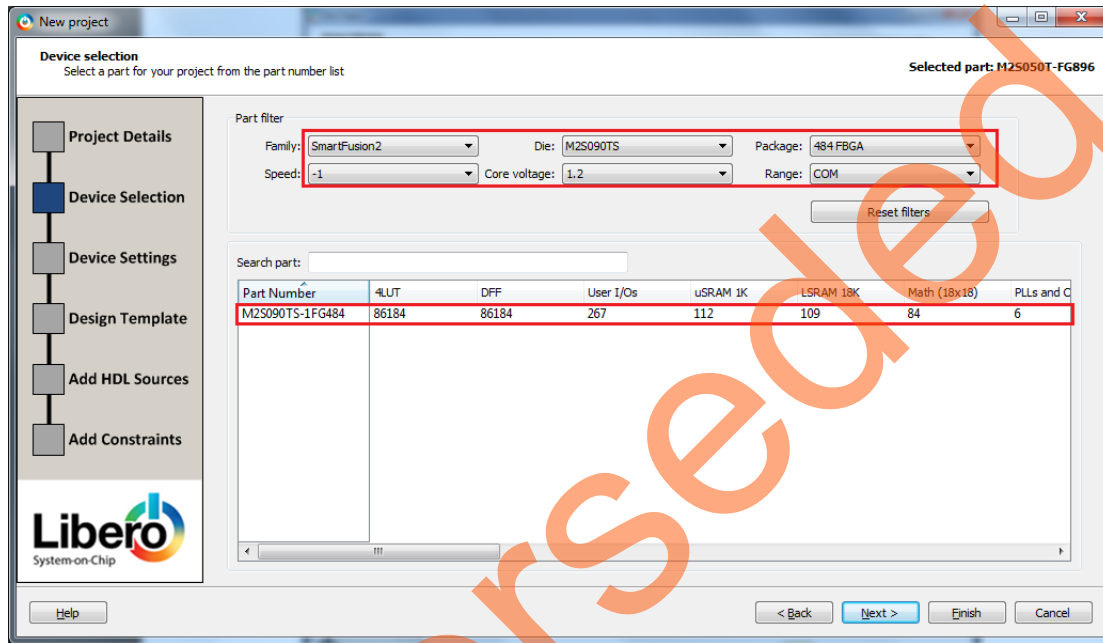

Figure 3 • New Project - Device Selection
4. Select the following values from the drop-down lists for **Device Selection**, as shown in Figure 3.